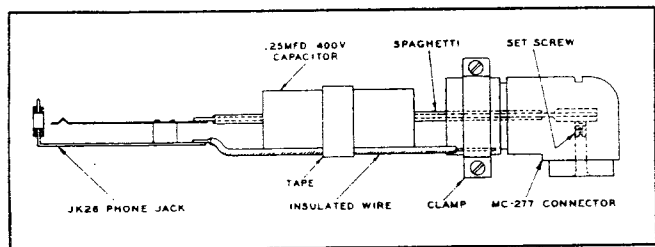

Figure 5-1. Earphone Adapter for Signal Tracing
- (1) Test oscilloscope (RCA 158 or equivalent).
- (2) Signal generator.
- (3) D-C voltmeters (1,000 and 20,000 ohms-per-volt sensitivity, with ranges up to 2500 volts or more).
- (4) A-C voltmeter (with range up to 3,000 volts).
- (5) Output meter (preferable a vacuum tube voltmeter).
- (6) Aural test set made up at depot from the following parts, as shown in figure 5-1: one pair earphones, one coaxial coupling, Coupling MC-277, one phone jack, Jack JK-26, and one 0.25-microfarad 400-volt capacitor.